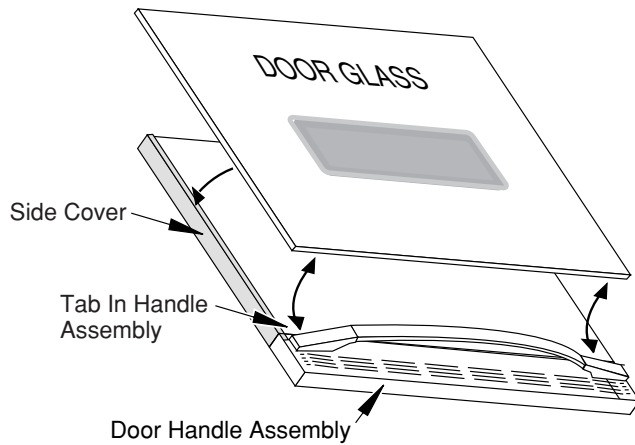

Figure 4-21
5. Lift the bottom of the door glass and slide the top out from under the two tabs in the door handle assembly (see Figure 4-21).